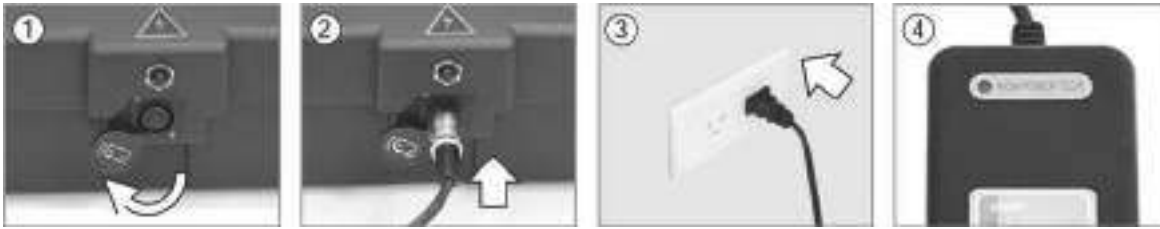

Figure 32
- Battery Box Charge Port (Figure 32)